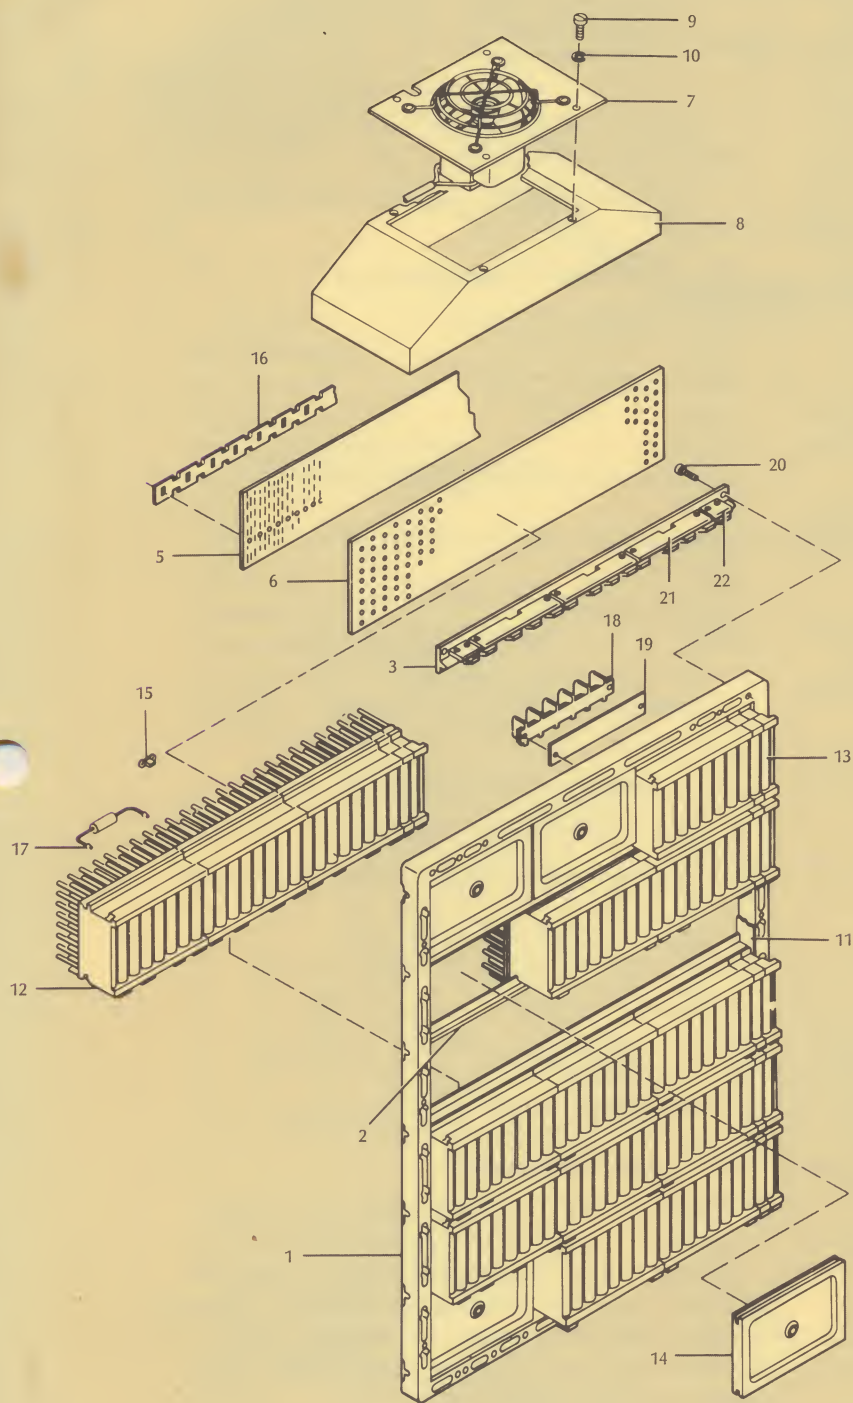

Figure 1: SMS Module I—Frame and Assembly Accessories
The method of assembling component parts for the Module II frame is identical to that for Module I, shown in Figure 1.
Back Panel Cards—To simplify the wiring of SMS modules, back panel wiring cards, ground planes, and voltage chains are available. These components are shown in Figure 1. The ground planes have been designed using pin (J) as the common or ground pin.
*Item numbers refer to Figure 1.